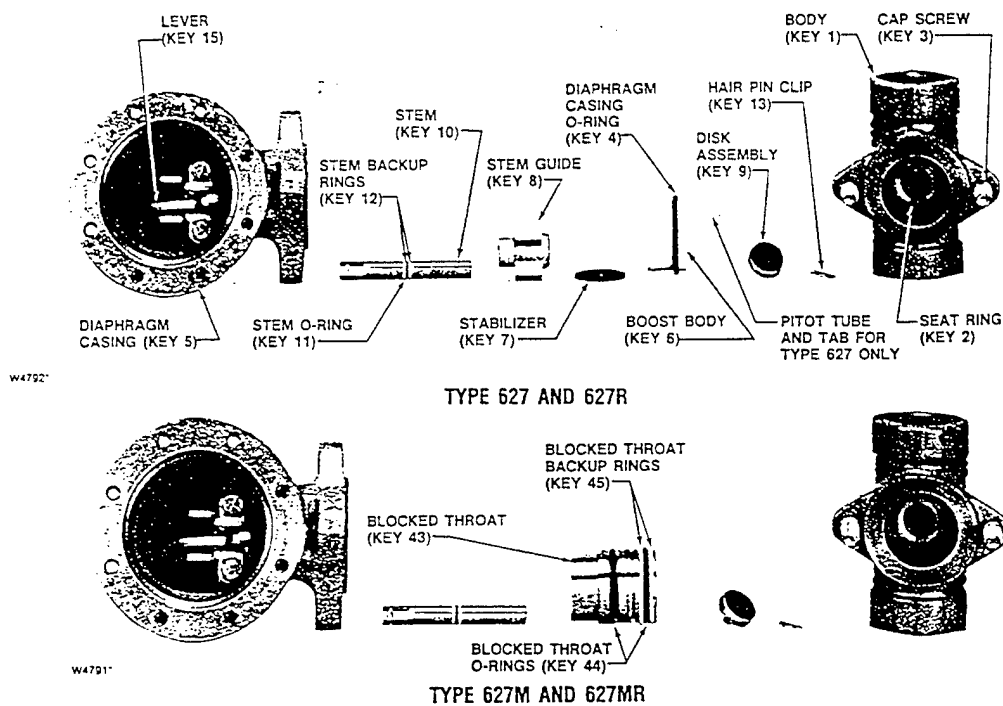

Figure 5. Stem Assemblies
1. To inspect and replace the disk assembly (key 9) or seat ring (key 2), remove the cap screws (key 3, figure 5), and separate the diaphragm casing (key 5) from the body (key 1).
2. Inspect and, if necessary, remove the seat ring (key 2). If removed, coat the threads of the replacement seat ring with lubricant (key 38) and torque to 25 foot-pounds (34 N•m).
3. Inspect the disk assembly and, if necessary, remove the hair pin clip (key 13) that holds the disk assembly (key 9) in place. If replacing the disk assembly is the only maintenance required, skip to step 16.
4. For Type 627 and 627R regulators (figure 5), use steps 5 through 8 to remove and replace the stem assembly.
5. Remove the boost body (key 6), stabilizer (key 7), and stem guide (key 8) from the diaphragm casing (key 5). Unhook and remove the stem (key 10) from the diaphragm casing (key 5).
9. For Type 627M and 627MR regulators (figure 5), use steps 10 through 14 to remove and replace the stem assembly.
10. To remove the blocked throat (key 43), insert a screw driver blade into the groove provided in the throat and pry it out of the diaphragm casing (key 5). Inspect and replace parts as necessary.
12. Apply lubricant (key 42) to replacement blocked throat O-rings (key 44) and backup rings (key 45).
13. Apply lubricant (key 42) to the replacement stem O-ring (key 11) and stem backup rings (key 12) and install them on the stem (key 10).
14. For assembly, insert the stem (key 10) into the diaphragm casing (key 5) and hook it on the lever (key 15).
15. Insert parts into the diaphragm casing (key 5) that were removed in steps 5 and 6 or step 10 (see figure 5).
16. Install the the disk assembly (key 9), line up the hole in the disk assembly and stem (key 10) and insert the hair pin clip (key 13).
17. Position the diaphragm casing plus attached parts in relation to the body (key 1) so that they are correct for the application.
18. Secure the diaphragm casing to the body with the cap screws (key 3, figure 5). For an aluminum diaphragm casing (key 5), torque the cap screws (key 3) to 16 foot-pounds (22 N·m). For ductile iron or steel diaphragm casings, torque the cap screws (key 3) to 25 foot-pounds (34 N·m).